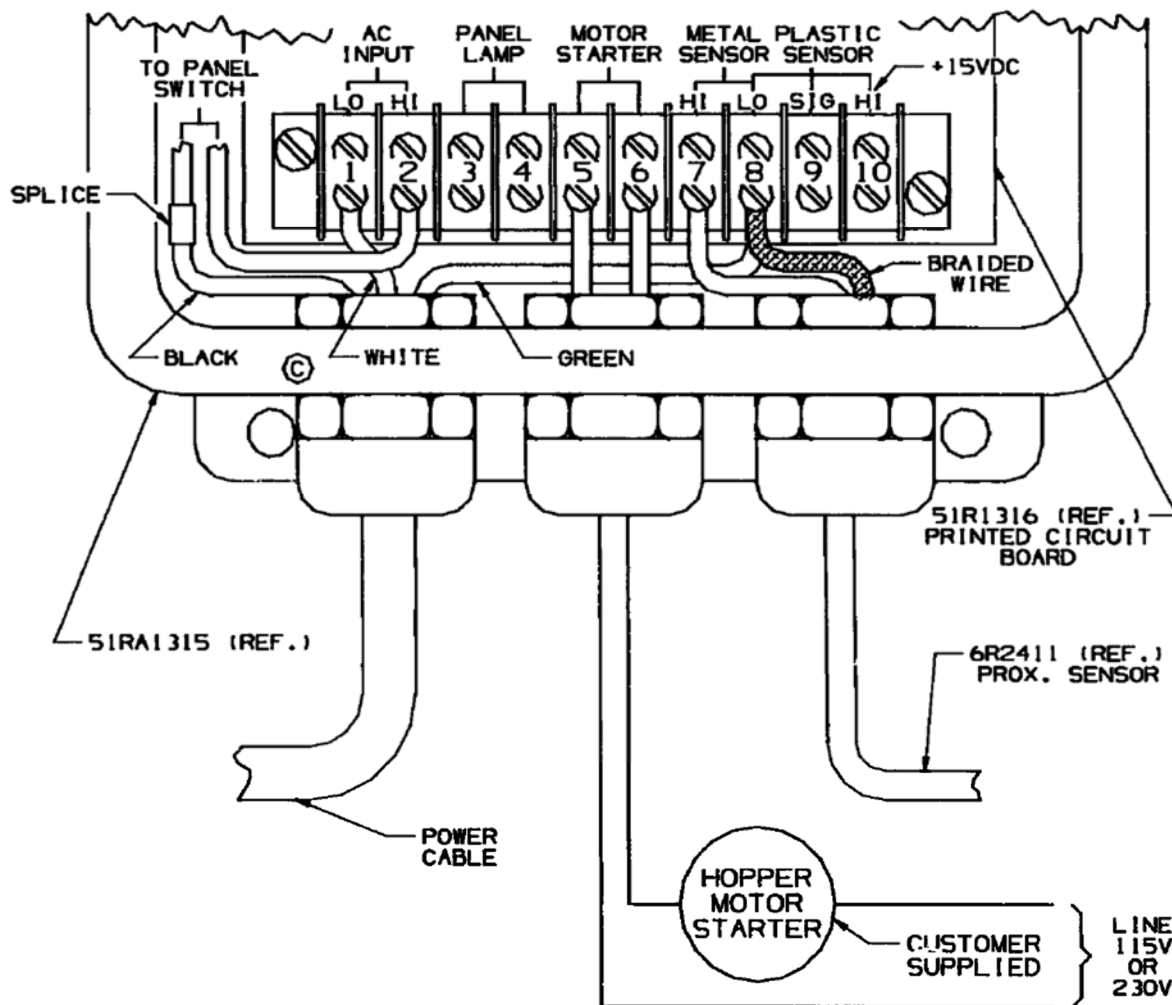

Figure 5: 6R25 Installation Instructions
2. Bring the leads from the hopper motor starter to the box. Enter through the open connector provided. Connect the starter leads internally to the terminal block screws 5 and 6 (*Figure 5*).